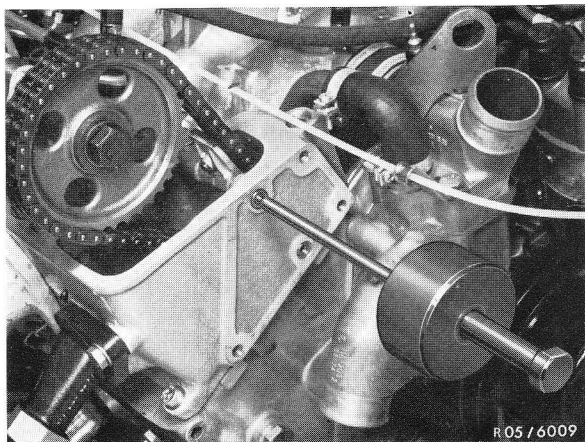

Fig. 2
- 3 Pull out slide rail bolt with puller and remove slide rail (Fig. 2).